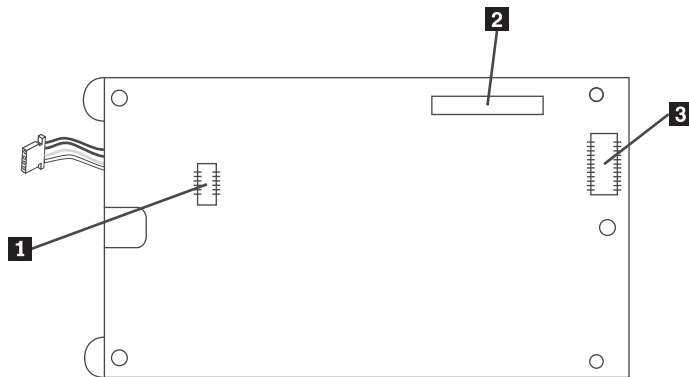
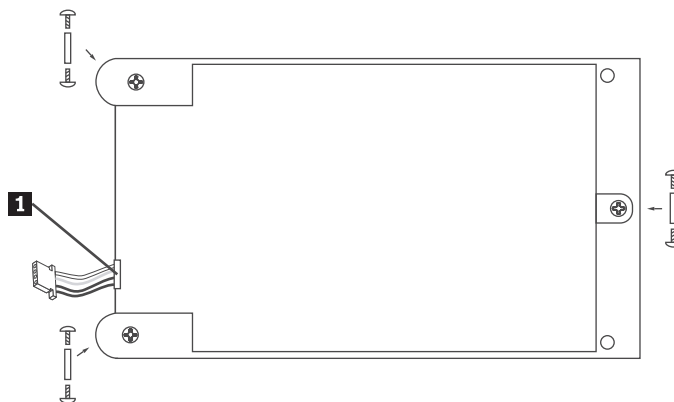
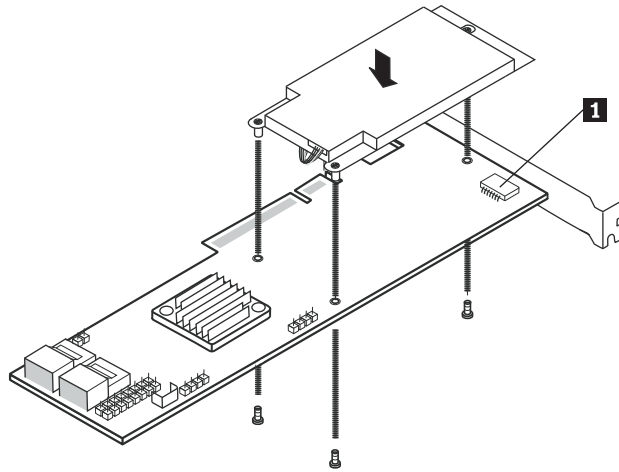

Figure 28. Bottom view
Figure 29. Top view
Figure 30. Installing the battery card assembly
- b. Insert the battery pack harness connector (as shown in Figure 29) into the 5-pin J3 battery pack harness connector (as shown in Figure 28) on the backside of the battery card assembly.
- d. Hold the battery card assembly with the battery side up and the J2 board-to-board connector (as shown in Figure 28) lining up with the J7 BBU connector on the RAID controller, as shown in Figure 30 on page 68.